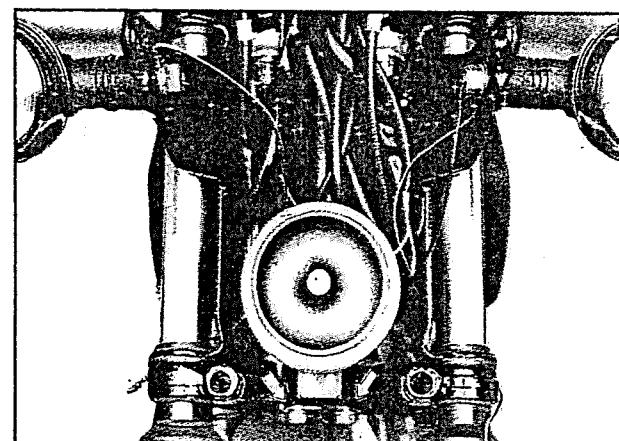

Fig 6.41
- Remove the horn bracket bolts, (2 nos) (fig 6.41)